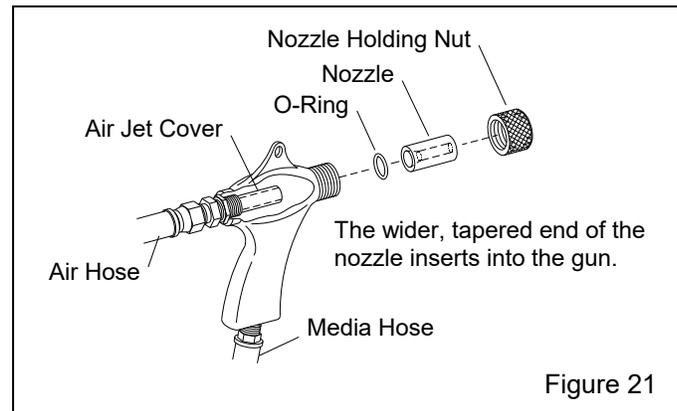

Figure 21
7.2 BNP® Gun Assembly – Figure 21